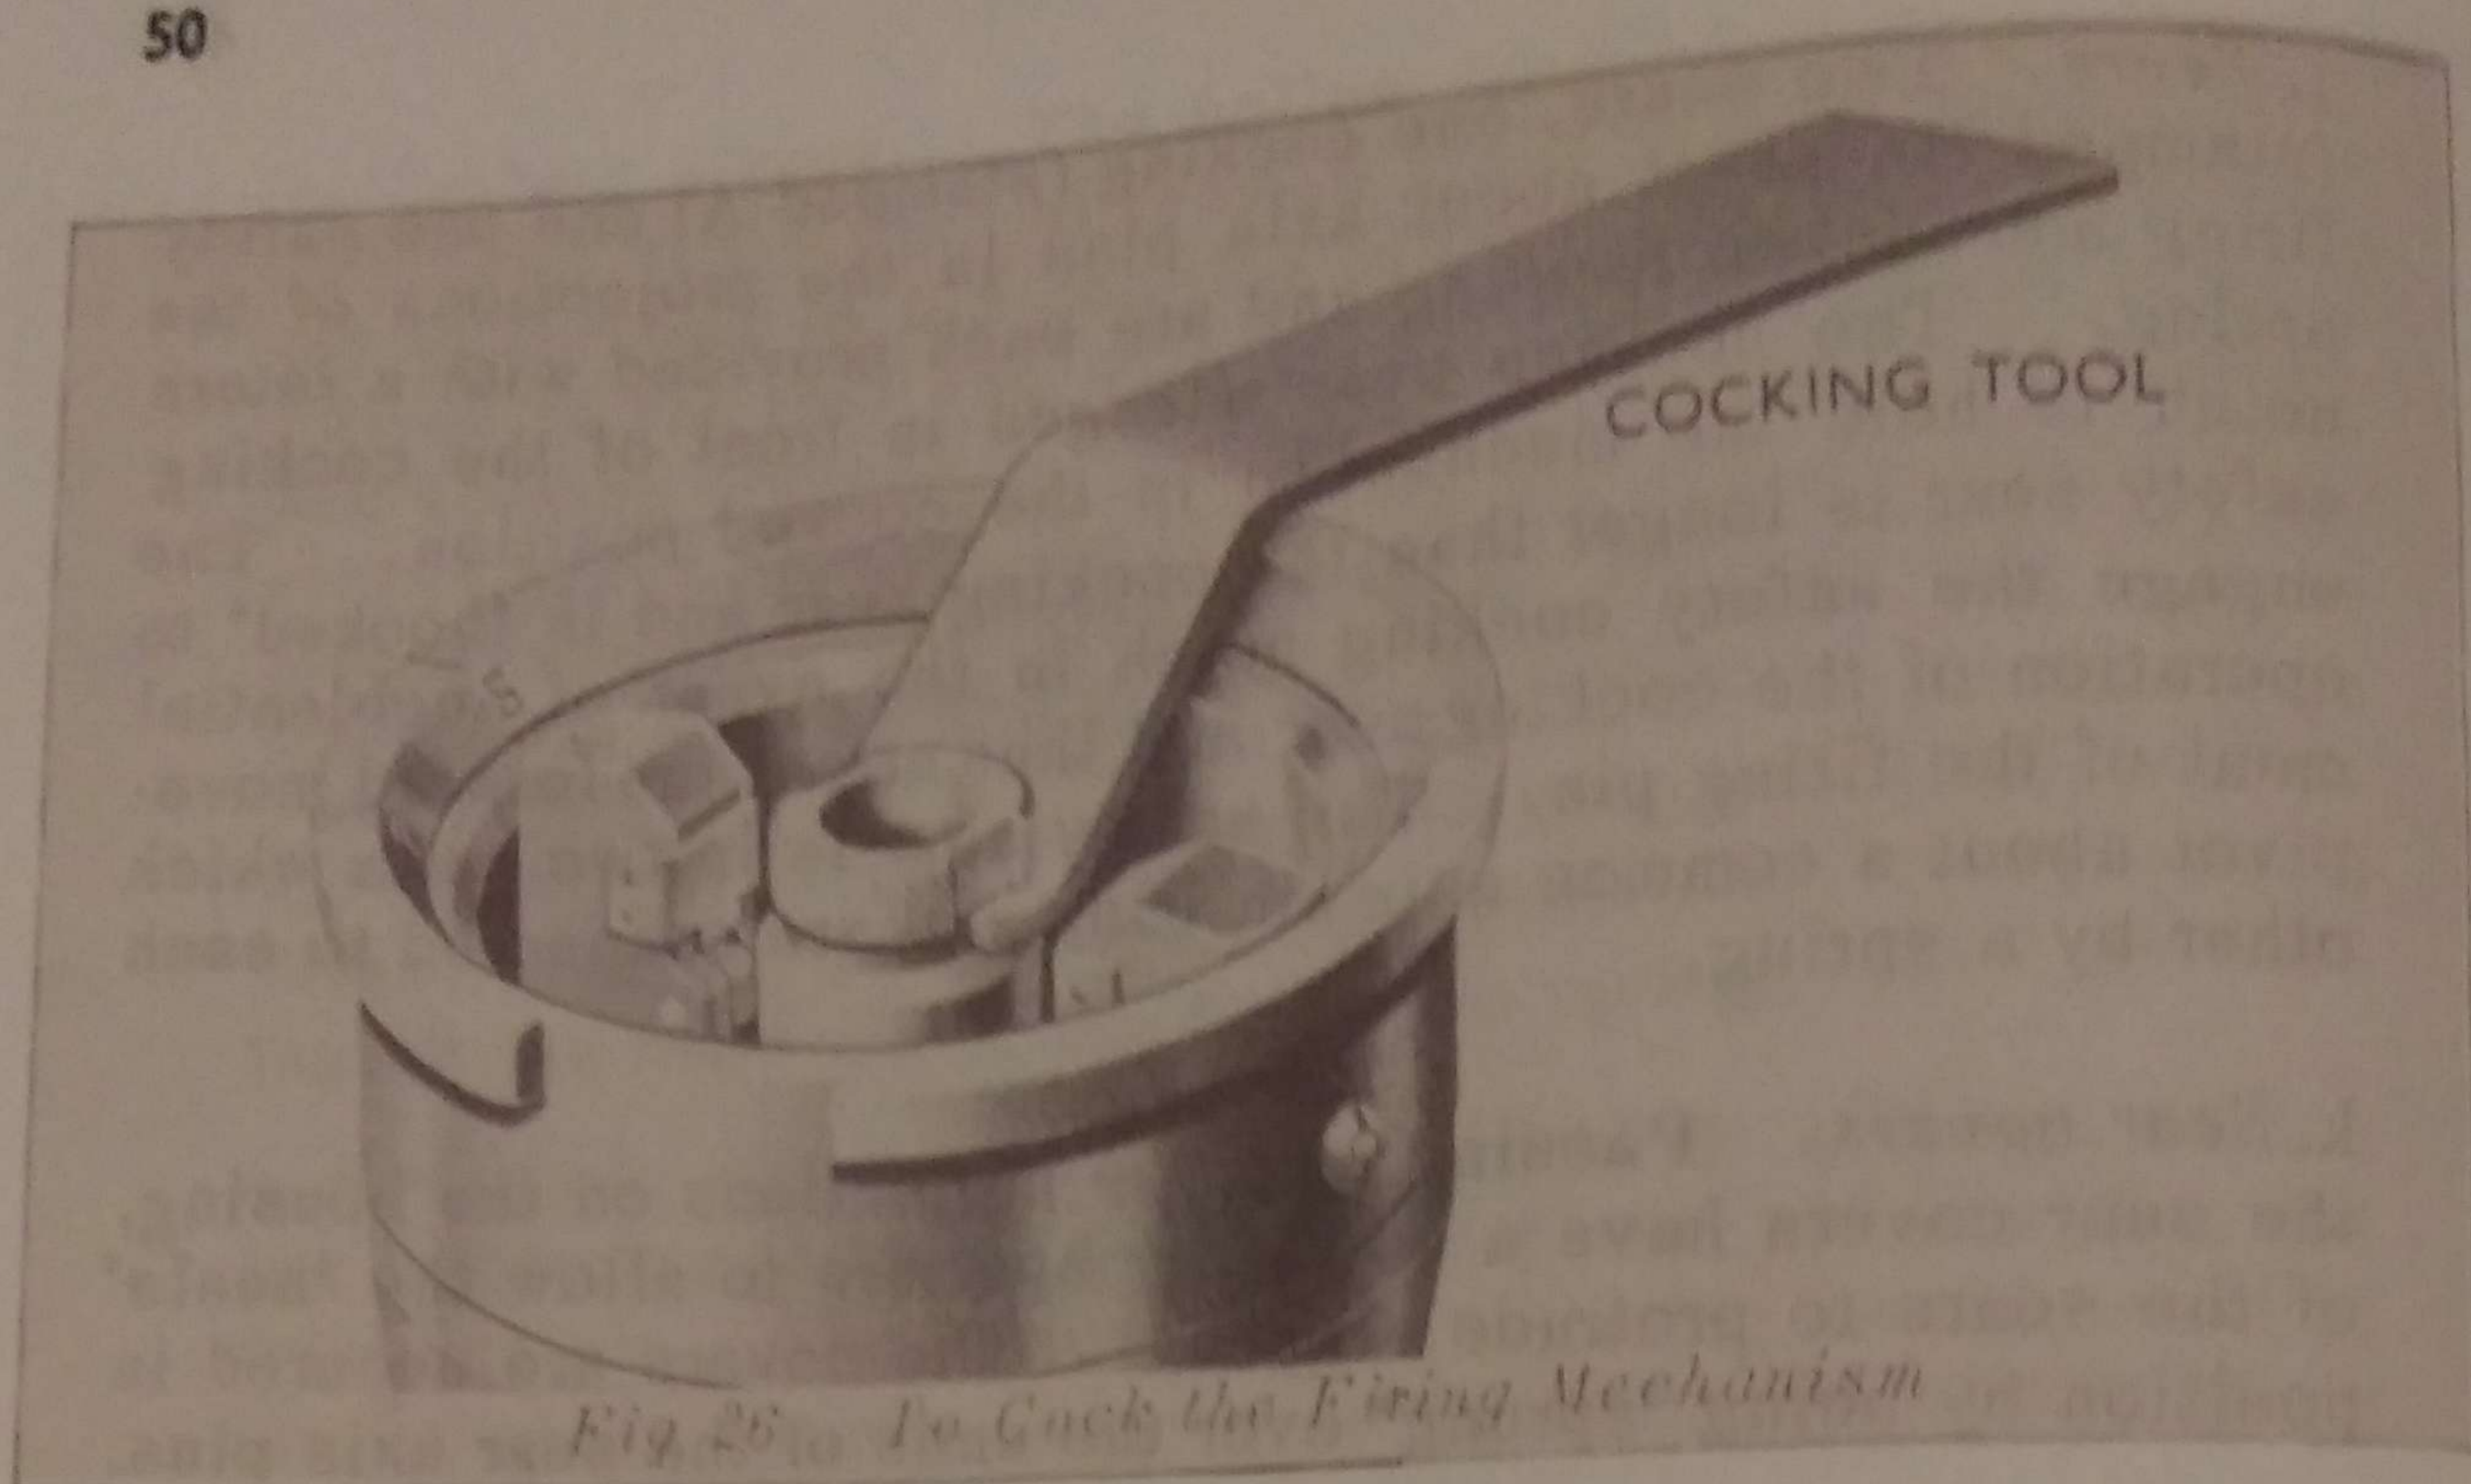

Fig 26 To Cock the Firing Mechanism
a. *To cock the firing mechanism when assembled in the body of the sub-calibre adaptor.* (Fig. 26). Using the cocking tool provided, place the claws of the tool in front of the milled collar on the cocking cap.